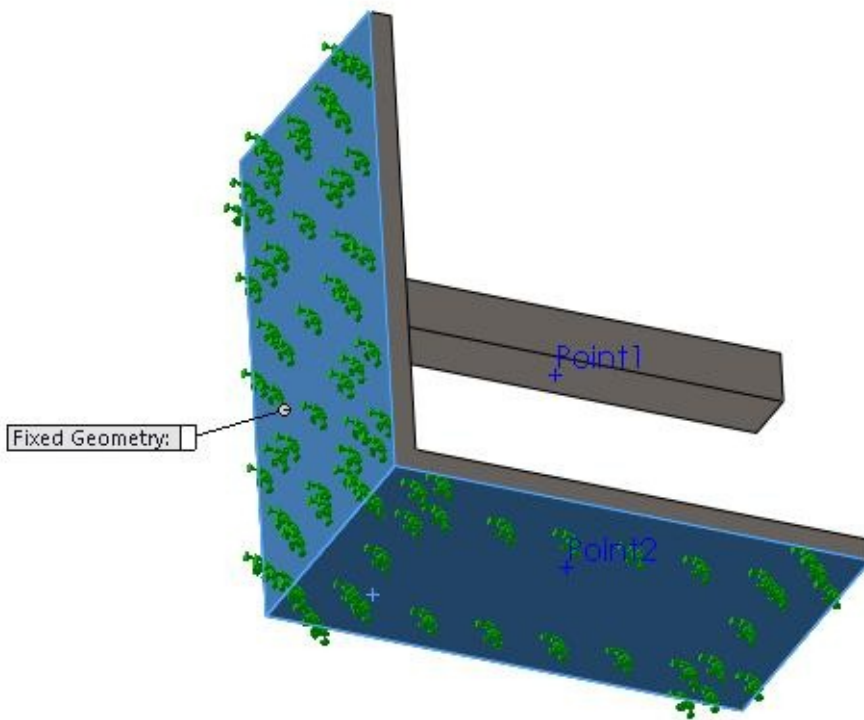

Figure-4. Faces to be fixed
- Select the flat faces of the model; refer to Figure-4.